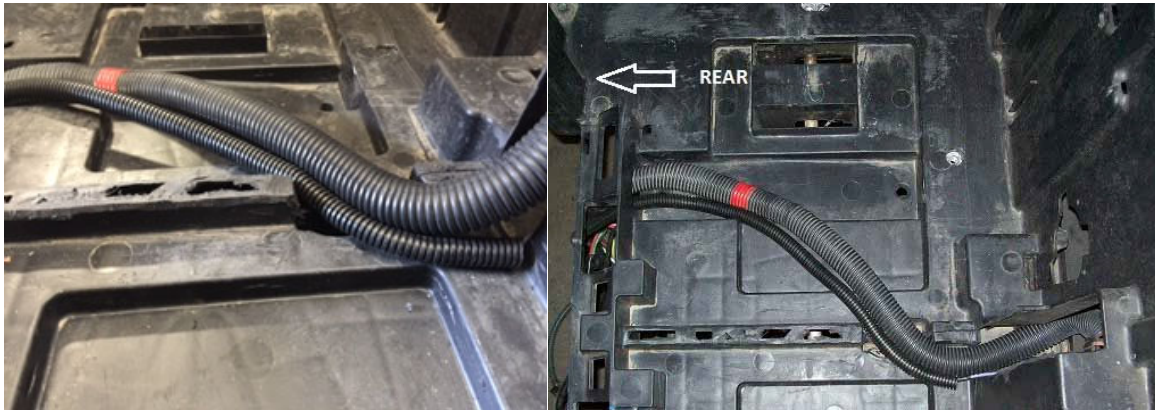

Fig. 12- OEM wiring harness routing
5. Proceed to route the OEM harness through the battery tray/tub as shown then carefully feed the connector/harness through the hole. (Fig. 12)